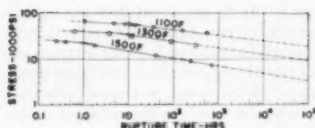

FIG. 6 STRESS VERSUS RUPTURE TIME; 18-8-MO
**Stress Versus Rupture Time.** Fig. 6 shows the relation between stress and time for rupture plotted to log-log co-ordinates, which for most but not all metals results in one or two straight lines. The change in slope is quite generally encountered if the range of temperature and deformation rate (time for rupture) are great enough, and seems to be associated with the change in type of fracture described earlier. Once the second slope has been established, there is little reason, on the basis of available